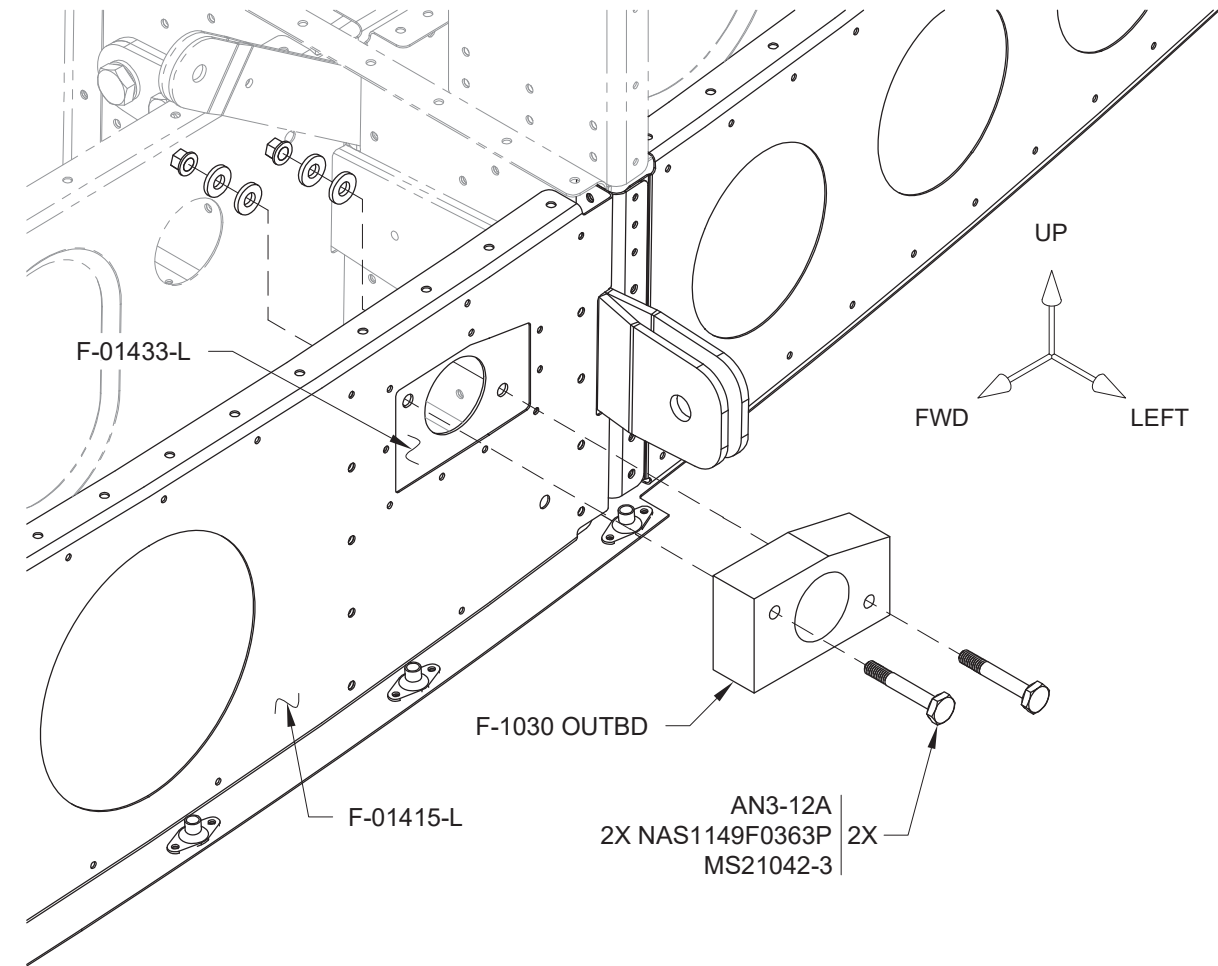

FIGURE 3: INSTALL OUTBOARD BUSHING
Step 3: Bolt the two F-1030 Outboard Bushings to the F-01433-L & -R Flap Block Brackets as shown in Figure 3.